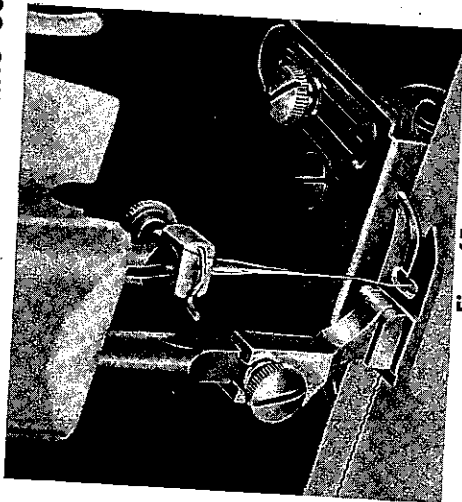

Fig. 45
a. Attach cloth guide to bed of machine by means of a thumb screw which fits into one of the screw holes in the bed of the machine (Fig. 45).